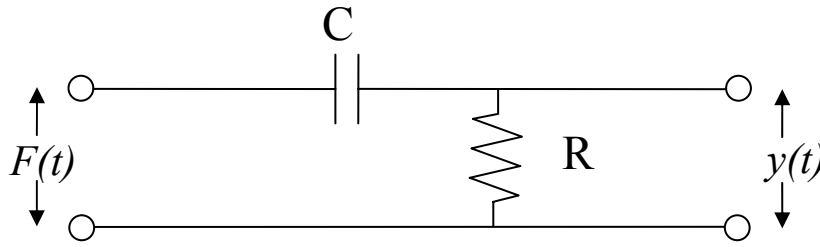

Figure 3. Single Pole Passive Filter Circuit
- 20) By combining 2 of the circuits drawn in Figure 3 in series the output, $y(t)$, can be correctly modeled as a second order system with respect to the input, $F(t)$?
- 21) The single pole passive filter drawn in Figure 3 has a time constant, τ , of
- 22) The filter circuit in Figure 3 is a single pole Butterworth high pass filter.